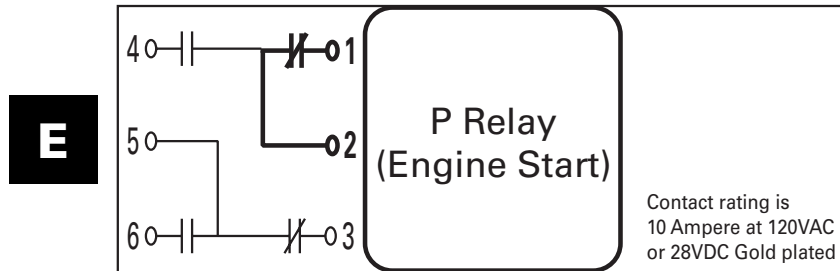

Figure 3
**NOTE: The equipment rating nameplate on the transfer switch lists the voltage. See Figure 3.**